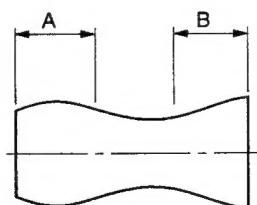

Fig. 2-7-8 Adjusting section
4. If the A section in Fig. 2-7-8 does not meet the specifications, adjust the S guide roller in up or down direction.
5. If the B section in Fig. 2-7-8 does not meet the specifications, adjust T guide roller in up or down direction.